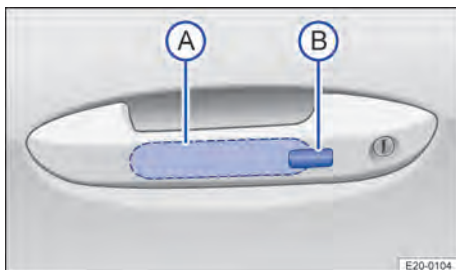

Fig. 55 In the door handle on the front doors: sensors
1. Touch the sensor → Fig. 55 (A) on the inside of the door handle. All direction indicators flash twice.
2. Touch the sensor → Fig. 55 ⓑ on the outside of the door handle. All direction indicators flash once.
2. Touch the sensor on the outside of the door handle once within five seconds → Fig. 55 ⓑ. Do not reach into the door handle. Keyless Entry is deactivated temporarily.